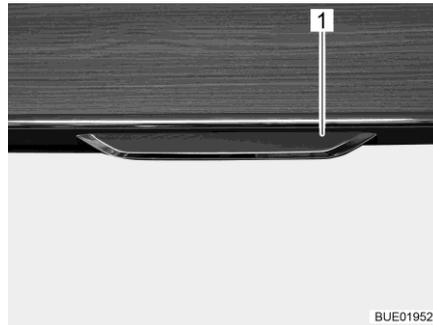
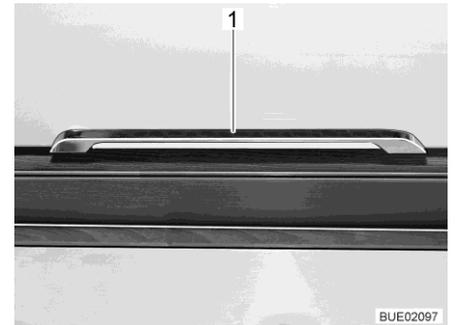

Fig. 68 Furniture flap with release handle
Fig. 69 Release handle (Ixeo T)
- Pull release handle (Fig. 68,1 and Fig. 69,1) outwards and downwards.